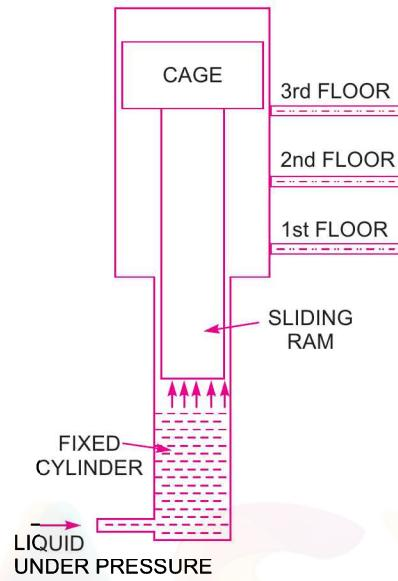

Fig. 21.8 Suspended hydraulic lift.
**21.6.1 Direct Acting Hydraulic Lift.** It consists of a ram, sliding in fixed cylinder as shown in Fig. 21.8. At the top of the sliding ram, a cage (on which the persons may stand or goods may be placed) is fitted. The liquid under pressure flows into the fixed cylinder. This liquid exerts force on the sliding ram, which moves vertically up and thus raises the cage to the required height.